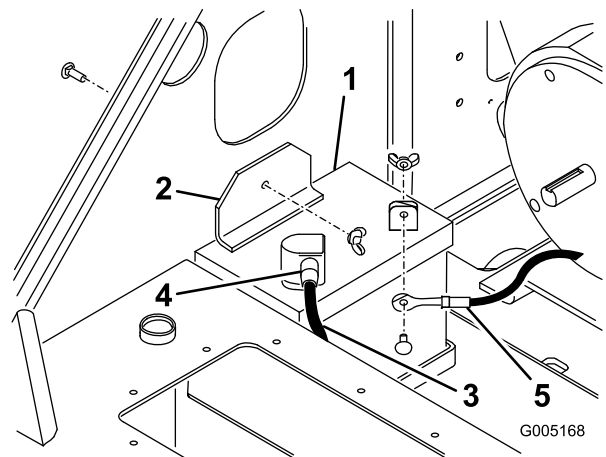

Figure 27
3. Remove the wing nut and bolt securing the battery clamp and strip (under the clamp) and remove the clamp and strip (Figure 27).
8. Install the battery into the chassis (Figure 27).
9. Secure the battery in the chassis (Figure 27).
10. Using the bolt and wing nut supplied with the battery, connect the positive (red) cable to the positive (+) battery post (Figure 27). Slide the rubber cover over the battery post.
11. Using the bolt and wing nut supplied with the battery, connect the negative (black) cable to the negative (-) battery post (Figure 27).